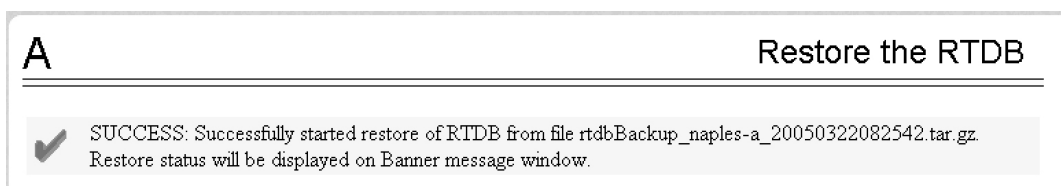

Figure 20: Restore the RTDB - Success
- When restoring the file is successful, the screen shown in Figure 20: Restore the RTDB - Success displays: